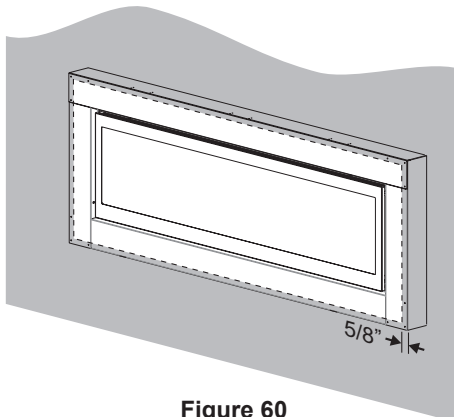

Figure 60
- 3a. Figure 60 shows minimum recommended coverage over the face of the outdoor kit. This covers rivets exposed on the outside of the fireplace. The non-combustible facing may be placed to the opening. See Figure 60.